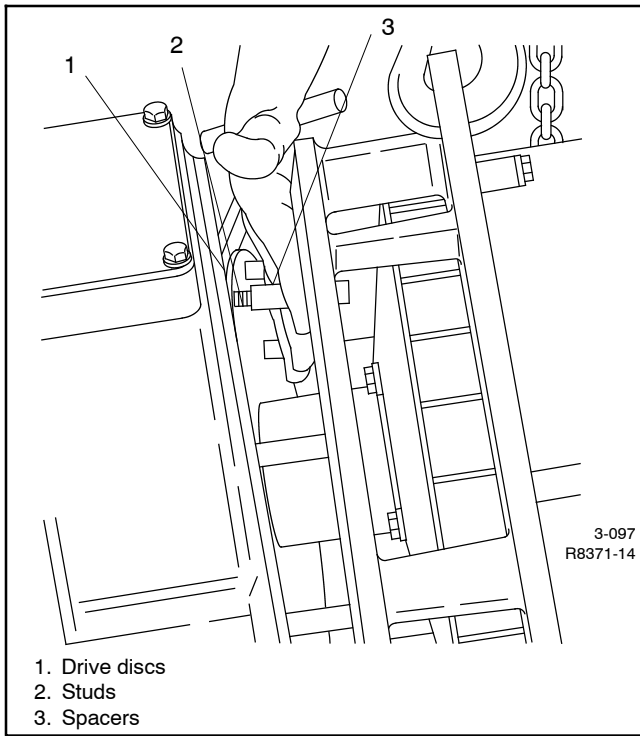

Figure 11-21 Installing Spacers
18. Place hoist hooks into the end bracket and adapter eye. Raise the alternator assembly and align the studs with the drive discs by turning the flywheel. Move the alternator as necessary to work the drive discs over studs. When the drive discs are about 25 mm (1 in.) over the studs, install spacers if so equipped. See Figure 11-21.